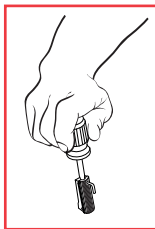

Fig. 15-1
2. With a suitable punch, depress the ILS spring cap and hold it down. (Figure 15-1)